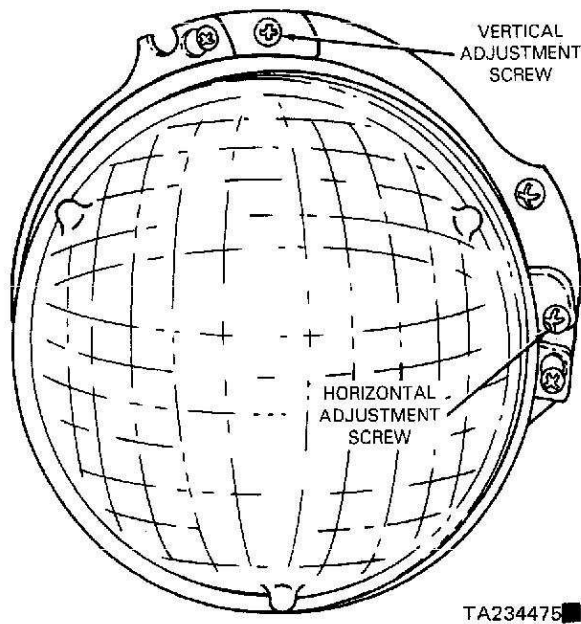

Figure 2-52. Headlight Adjustment Points.
a. Adjustments. See figure 2-52 for an illustration of the headlight adjustment points.